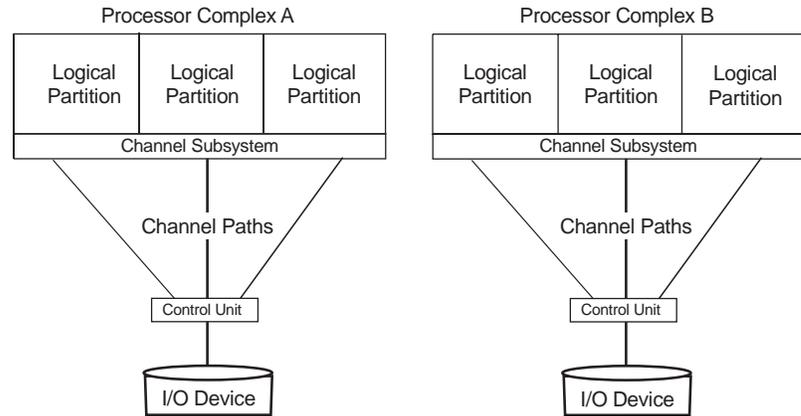

Figure 2-5. Shared Channel Paths
Figure 2-5 compares three unshared channel paths to a single shared channel path. In processor complex A, three logical partitions can access an I/O device through three unshared channel paths. In processor complex B, which has MIF capability, three logical partitions can access an I/O device through a single shared channel path.
- Using shared ESCON and FICON channel paths does not reduce the number of logical paths needed at a control unit. A control unit requires a logical path for each logical partition that can access a shared channel path. For example, in Figure 2-5, the control units shown connected to processor complexes A and B both require three logical paths for the three logical partitions.